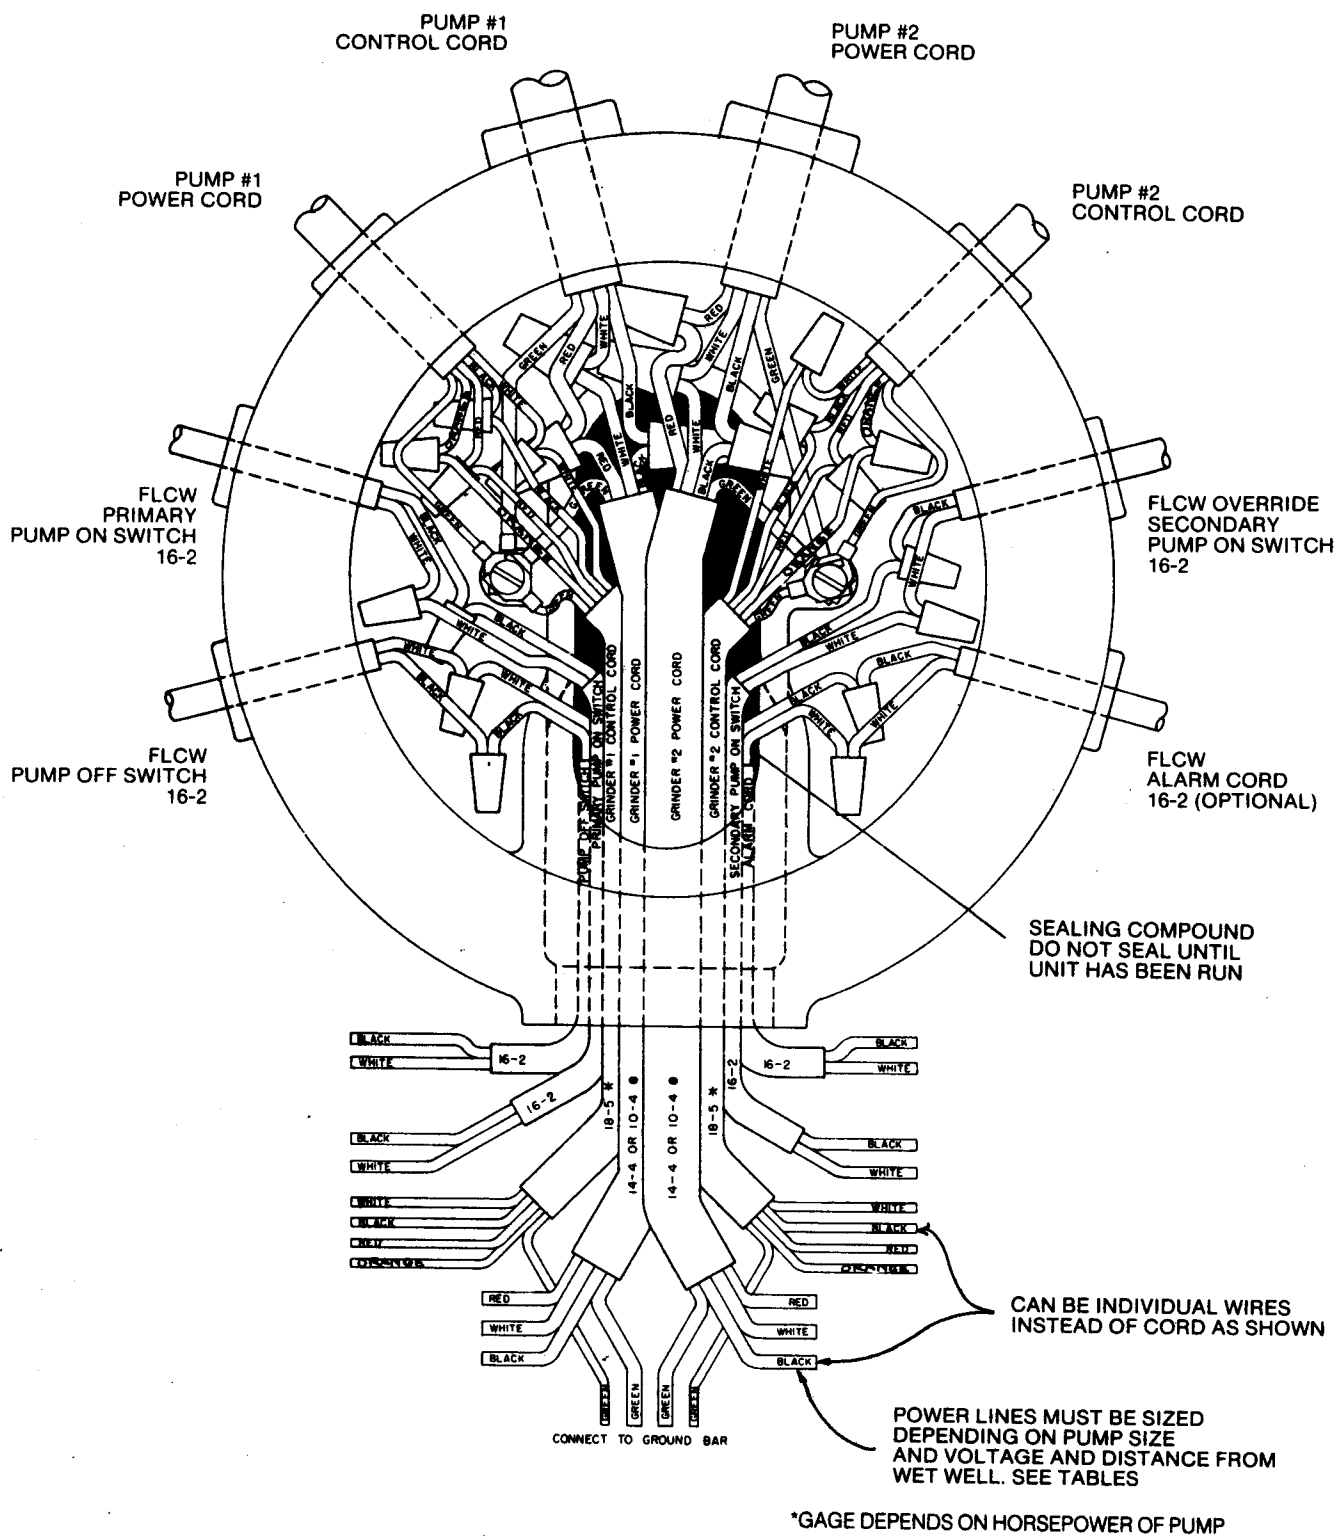

FIG. 5
1. Pump impeller may be air locked, this occasionally occurs on a new installation, see page 3. Start and stop pump several times to purge air. Be sure air vent hole in volute case is clean. See dwg. fig. 5.